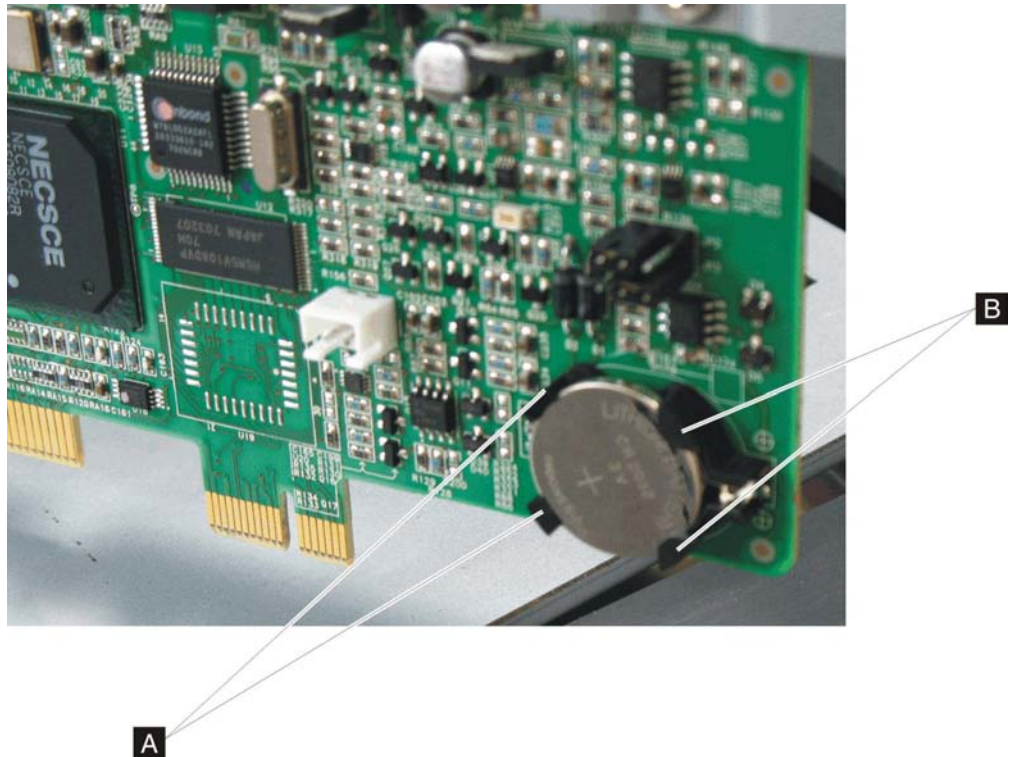

Figure 33. Removing the riser battery
2. Using the tip of a screwdriver, *carefully* lever the battery out from under the battery socket's short tabs ( **A** in Figure 33 on page 44, toward the rear of the riser card).
1. Insert one edge of the battery (positive side UP) under the battery socket's longer tabs ( **B** in Figure 33, toward the front of the riser card).